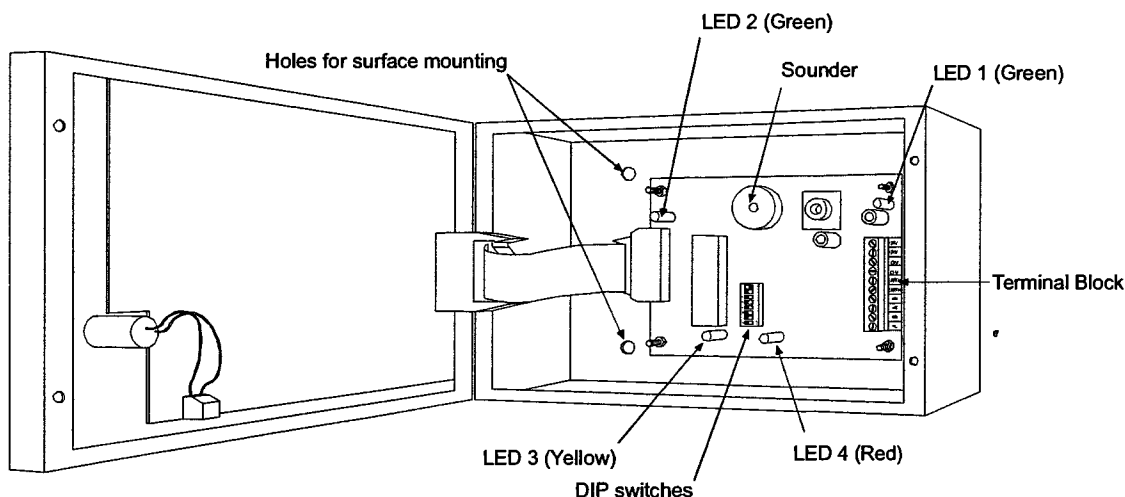

Figure 2: Internal View of D9069
- 2) Mount the enclosure in the desired location. Use all four mounting holes (see Figure 2 for mounting hole locations).
There are two sets of LEDs on the D9069 Fire System Annunciator: the Front Panel Display LEDs and the System Activity LEDs. The Front Panel Display LEDs are located on the outside of the D9069's enclosure door. See Figure 1. The System Activity LEDs are located on the D9069 PCB. See Figure 2. See Tables 1 and 2 for the functions of these LEDs.